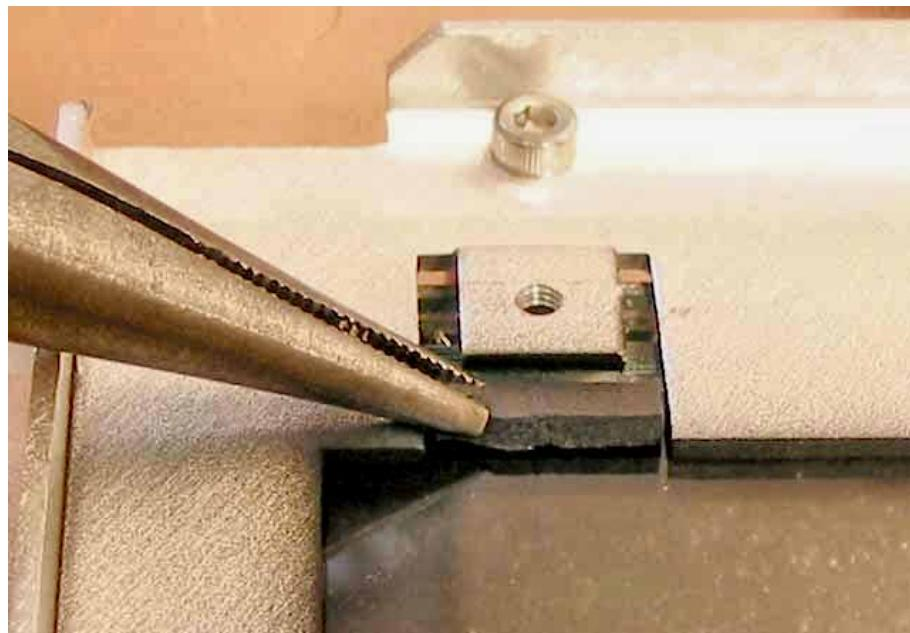
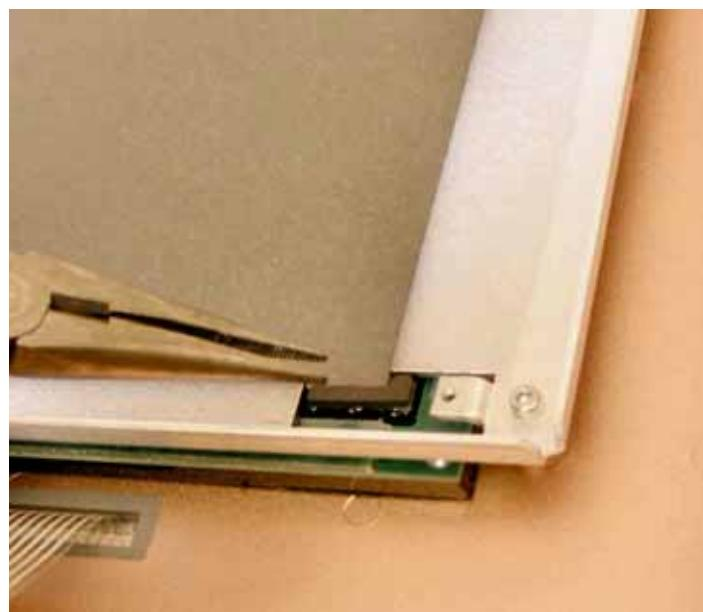

Figure 9-40: Installing the GUI Dust Gaskets
Figure 9-41: Installing the GUI Dust Gaskets
6. Place the four foam pieces on the LCD (Figure 9-40 and Figure 9-41).